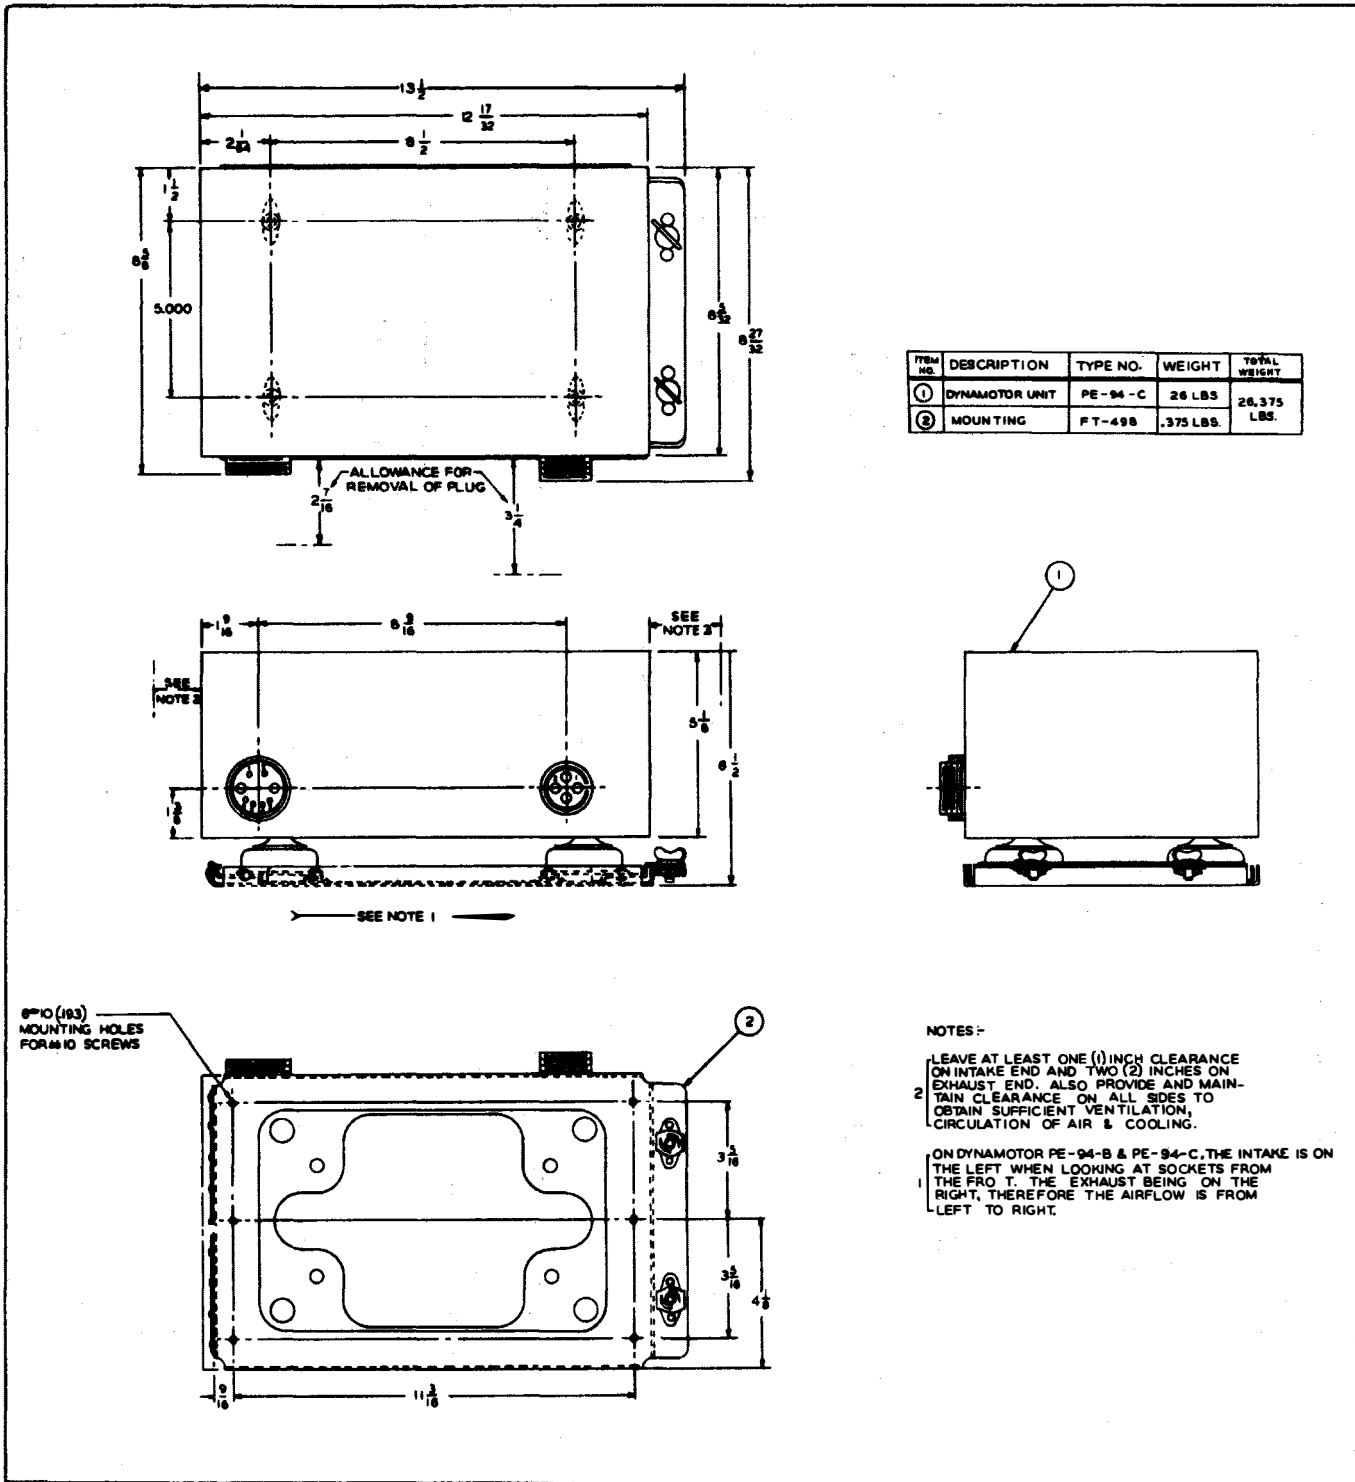

Figure 2-3. Dynamotor Unit PE-94-C—Installation Dimensions
b. DYNAMOTOR UNIT PE-94-(). — Install the dynamotor unit so that there is at least a 2-inch clearance on the intake end and a 3-inch clearance on the exhaust end. (See fig. 2-3.)